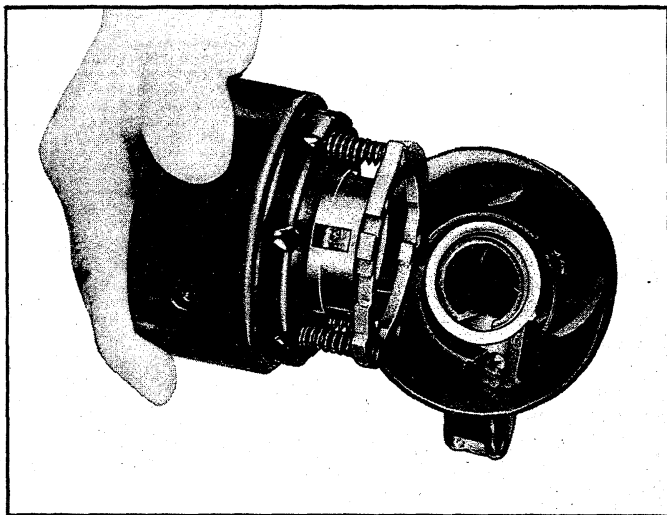

Fig. 29—Removing Turn Signal Switch Cover from Column
9. Rotate turn signal switch cover counterclockwise and pull cover off top of jacket (Fig. 29).
10. Rotate turn signal switch cover counterclockwise and pull cover off top of jacket (fig. 29).